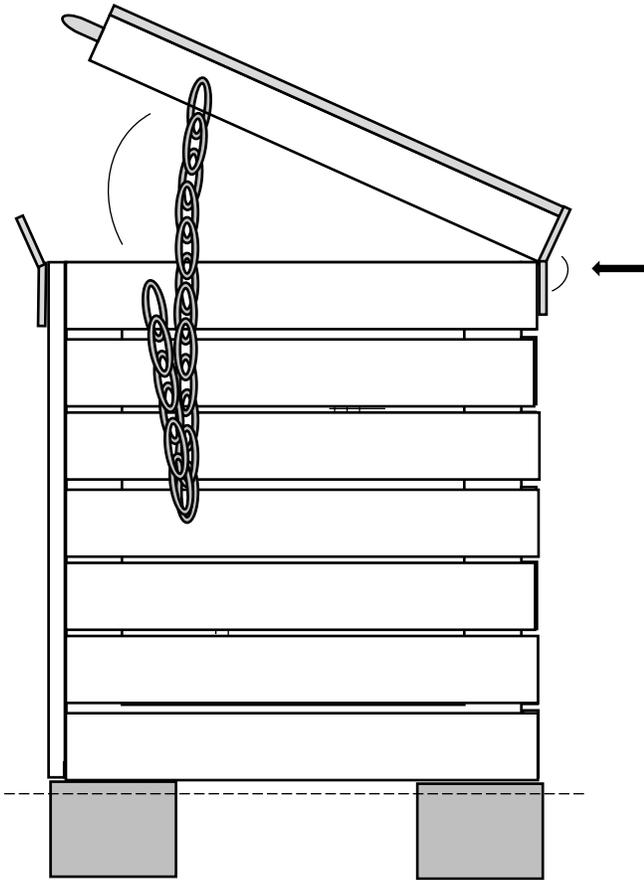

Fig. 11
### (1) Lid: Fig. 11, 12
- (2) 2x4 @ 108"
- (4) 2x4s @ 36"